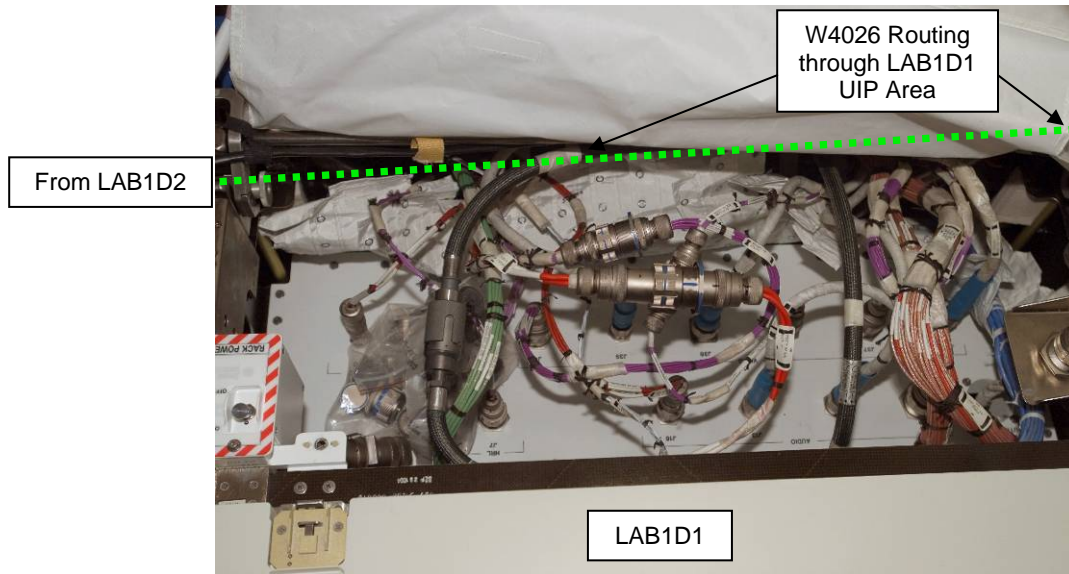

Figure 1.- W4026 Cable Routing Through LAB1D1 UIP Area.
1. Route P1 end of W4026 from LAB1D2 UIP through the Port/Deck Standoff and LAB1D1 UIP, securing as required (Wire Ties). Refer to Figures 1 and 2.